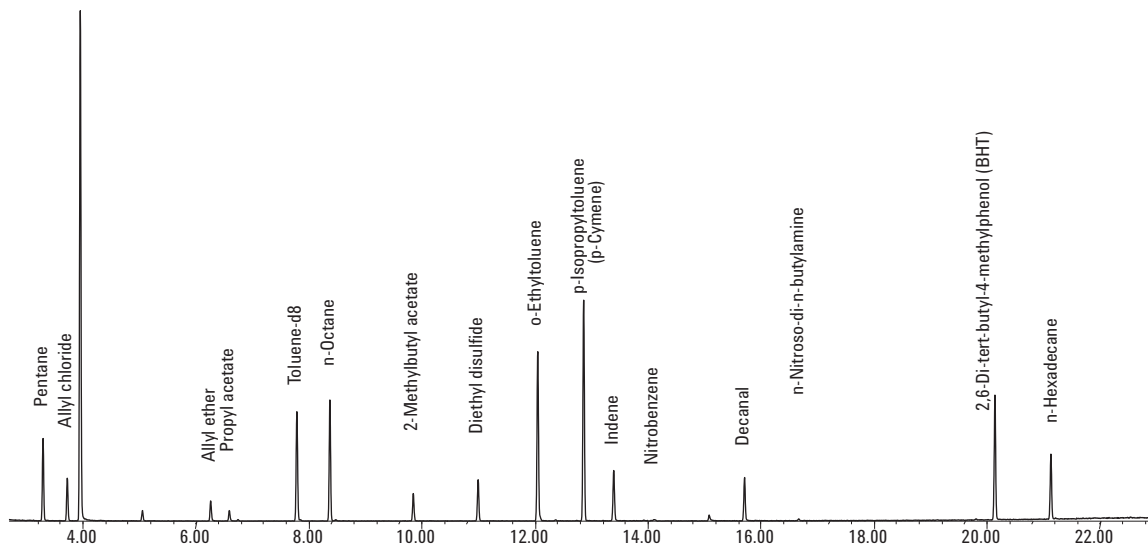

Figure 7 Solvents-Plus checkout mix total ion chromatogram
- 2 Using the **File > Load Data File...** menu item, load the last checkout mix relocking run that was made. Select the menu item **DRS > Quant + DRS single file**. After a moment, you will see activity on the computer as DRS performs a quantitative analysis, deconvolutes the mass spectra and searches the **VOA_3in1_checkout.msl** AMDIS database. Depending upon the deconvolution settings chosen, the DRS process will typically take 2 to 4 minutes. At this point, DRS will generate a report that looks similar to (but not necessarily identical to) Figure 7 on page 36.